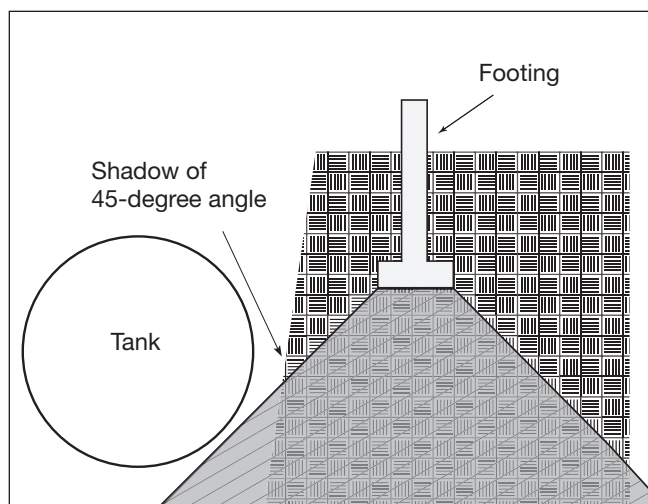

FIGURE 7-1
7.2.4. The location of a tank can be affected by the location of nearby structures. When selecting a tank site, care must be taken to avoid undermining the foundations of existing structures or new buildings to be constructed. See *FIGURE 7-1*.
7.2.5.4. The tank must not fall within the “shadow” of the 45-degree-angle line drawn from the foundation’s footing. See *FIGURE 7-1*.